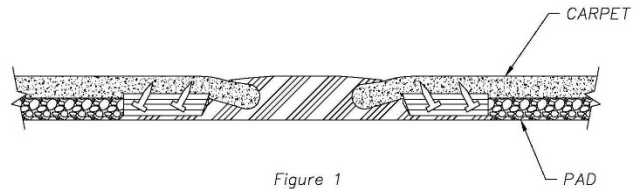

Figure 1
- Secure the tack strips with the nails provided with the tack strip through the mounting wings and into the substrate (**Figure 1**).